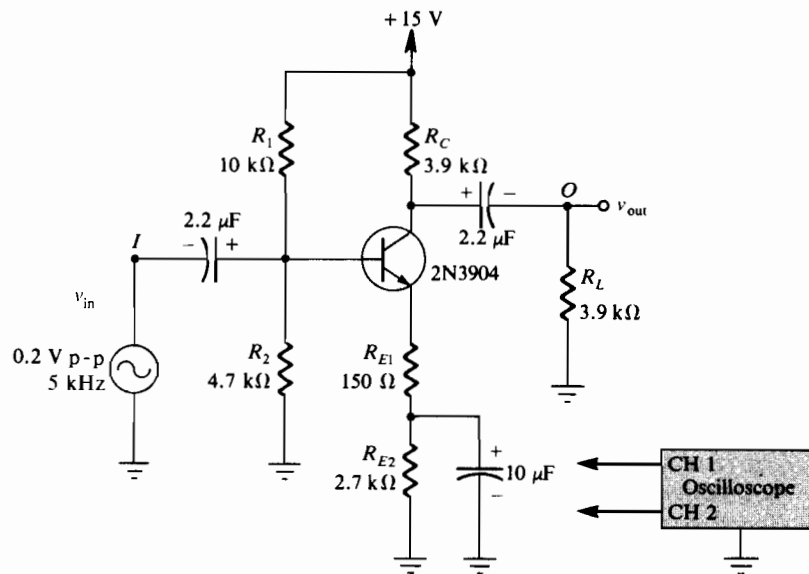

FIGURE 13–1 Schematic diagram of circuit.
3. Connect Channel 1 of your oscilloscope to point I (v_{in}) and Channel 2 to point O (v_{out}). Then connect the signal generator to the circuit as shown in Figure 13–1, and adjust the sine wave output level of the generator at 0.2 V *peak-to-peak* at a frequency of 5 kHz.
8. Reconnect the 3.9-k Ω load resistor as in the original circuit of Figure 13–1. Remove the 10- μ F emitter bypass capacitor from the circuit. You should observe that the output voltage decreases tremendously. It does so because the total ac emitter resistance is now $R_{E1} + R_{E2}$, in addition to the transistor’s internal ac emitter resistance, r_e . As in the previous two steps, experimentally determine the voltage gain by measuring v_{out} and v_{in} , comparing your results with the expected value (Equation 4). Record your results in Table 13–3.
1. For the circuit of Figure 13–1, the voltage gain from base to collector is approximately
3. If the emitter bypass capacitor in Figure 13–1 is removed, the amplifier voltage gain will
4. If the emitter bypass capacitor in Figure 13–1 is shorted,
5. If the load resistor R_L in the circuit of Figure 13–1 is made larger, the amplifier voltage gain will